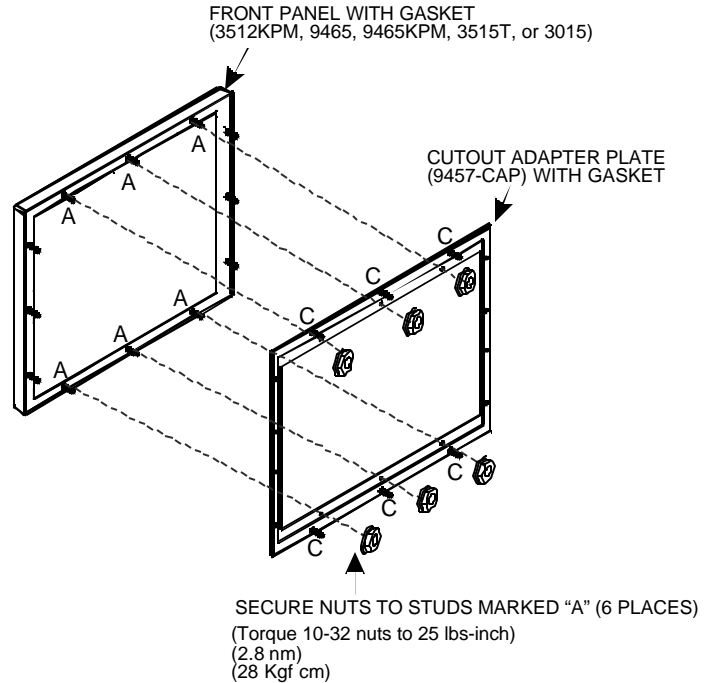
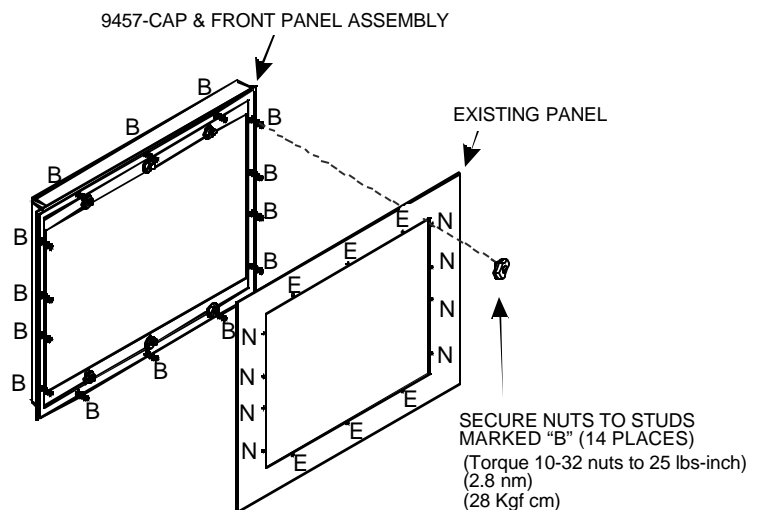

Figure 1. Mount front panel to cutout adapter plate.
Figure 2. Mount 9457-CAP and front panel assembly to panel.
- Place the 9457-CAP cutout adapter plate over the existing panel cutout by inserting the six adapter plate studs (marked C in Figure 1) into the existing cutout mounting holes (marked E in Figure 2).
- Locate and mark the position of the eight new holes on the existing panel (marked "N" in Figure 2).
3. Mount the front panel of the replacement unit to the cutout adapter plate as shown in Figure 1 (studs marked "A"). Torque 10-32 nuts to 25 lbs-inch.
4. Mount the combined 9457-CAP and front panel assembly to the modified panel as shown in Figure 2 (studs marked "B"). Torque 10-32 nuts to 25 lbs-inch.